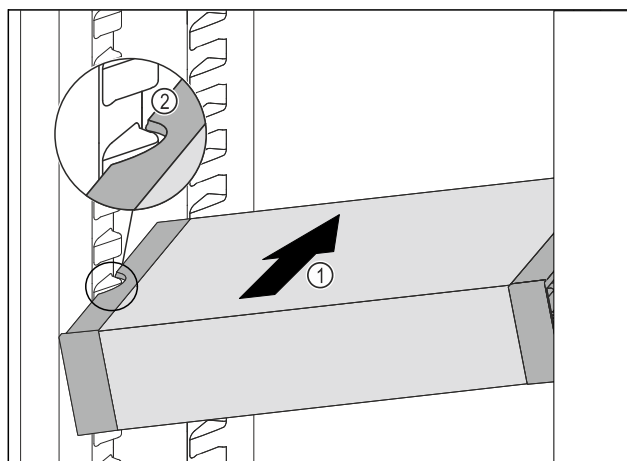

Fig. 107
- Insert the VarioSafe into the fridge section at an angle Fig. 107 (1) until the recesses in the side Fig. 107 (2) of the VarioSafe are at the level of the support rib in the fridge section.